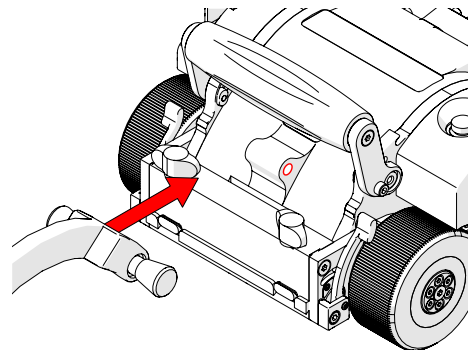

Fig. 68 - Align pins with mounting holes
2. Align the pins with the mounting holes of the **MOTIX** (Fig. 68).